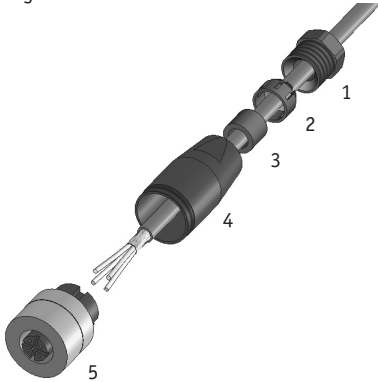

Fig. 1: Counter-plug
Please proceed as follows (Fig.1):
- Place the hood (1) onto the gear's housing (2) so that the two broad markings are on one line.
- Fix the gear's housing (2) and turn the hood (1) clockwise until the bayonet fastening engages and the two thin markings are on one line (Fig. 1).